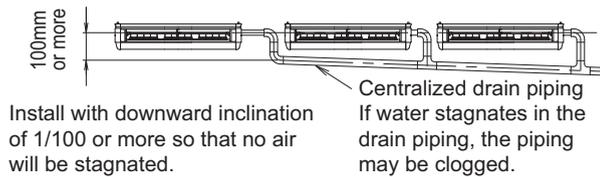

Fig. 28
To avoid the attached drain hose (1) getting excessive force, do not bend nor twist it. (It may cause water leakage.) When conducting the centralized drain piping, follow the instructions in Fig. 28. For the diameter of the centralized drain piping, select the diameter matching the capacity of the indoor unit to be connected. (Refer to technical guidebook.).